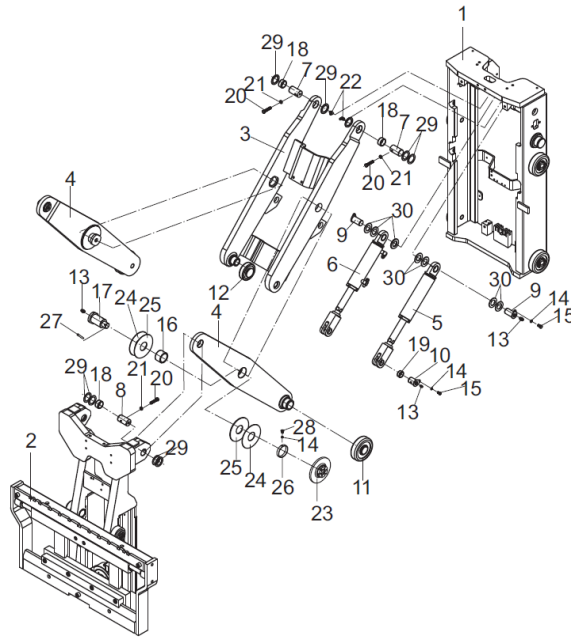

Figure 4-8-10 Structure of telescopic fork assembly
1) Remove the four bolts fixing the backrest (it is not shown figure 4-8-10) to the fork plate then remove the backrest.
2) Remove the fork (it is not shown figure 4-8-10) from the fork carrier.
3) Extend telescopic fork and then place a wood piece of 50×100×200mm on the right channel steel or left channel steel of item 1 as shown in figure 4-8-10.
6) Remove the part 9 and 10 of telescopic cylinder as shown in figure 4-8-10 and then remove the left and right telescopic cylinder.
7) Support the side shifter assembly 2 with lifting equipment or other proper method. After the pin axle 8 as shown in figure 4-8-10 is removed, the side shifter assembly 2 in figure 4-8-10 can be removed. Place the side shifter assembly on the ground horizontally.
8. Lift the inner fork plate with lifting equipment and remove the pin axle 7 as shown in figure 4-8-10.
10) Remove the limit ring 26 and limit pin axle 27 as shown in figure 4-8-10. Remove the lock cover 23 and shim 24.
11) Remove the scissor plate assembly 4 as shown in figure 4-8-10.
When changing the washer 24 and 25 on two sides of scissor plate assembly as shown in figure 4-8-10, apply a thin layer of grease on all surfaces.
Note: 1. If the scissor plate assembly 4 can not be installed into bracket 1 as shown in figure 4-8-10, it means that there is deformation or curve of scissor plate assembly 3,